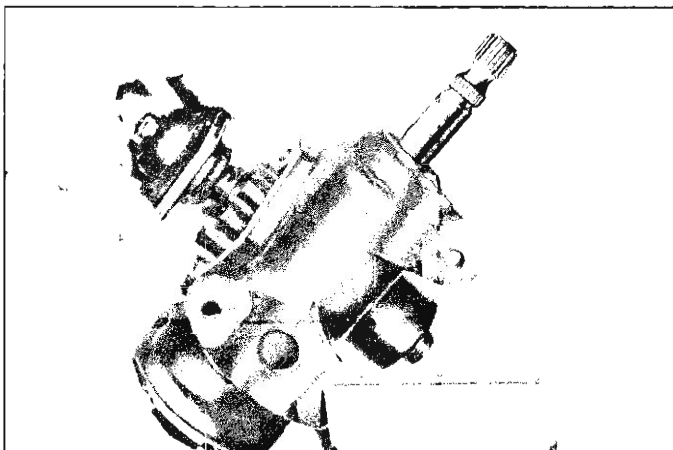

Fig. 45—Removing Sector Shaft
4. Pull the side cover with the sector and shaft from the housing (fig. 45).